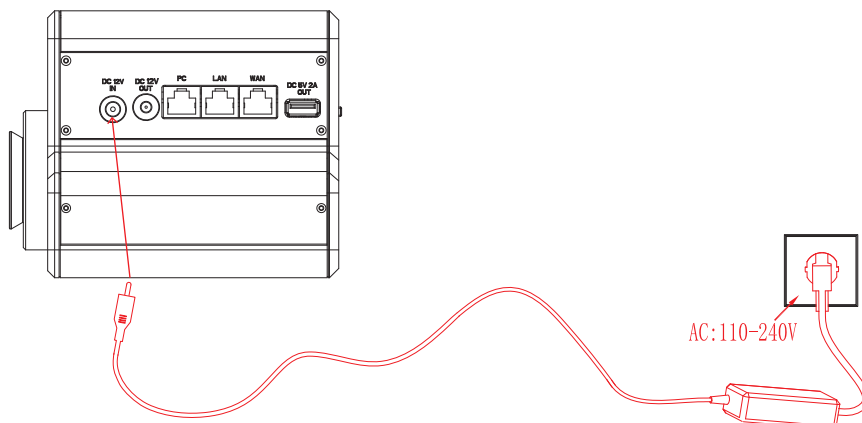

Figure 6
(2) Power the interactive workstation to a 110-240V AC socket, as shown in Figure 6 below.